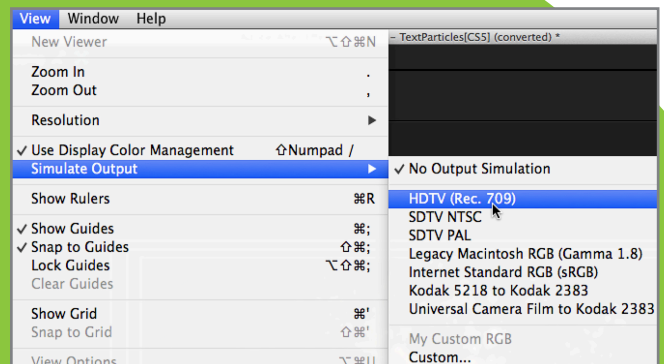

Figure 55
2. With the project open in After Effects, go to the View Menu and choose Simulate Output (Figure 55). Select the target color profile to preview on-screen exactly how your project will appear in the color space for each desired destination. The best color will be provided using a DisplayPort connector, in order to take advantage of all the billion+ shades of 10-bit color Cintiq 27QHD displays can provide.